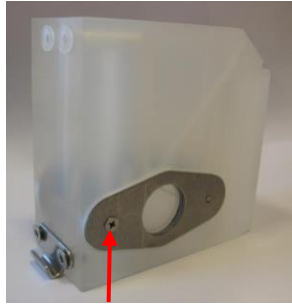

Figure 33
5. Remove both the sight glass holders (see figure 33).
11. Fix the sight glasses in place with the sight glass holders (see figure 33).